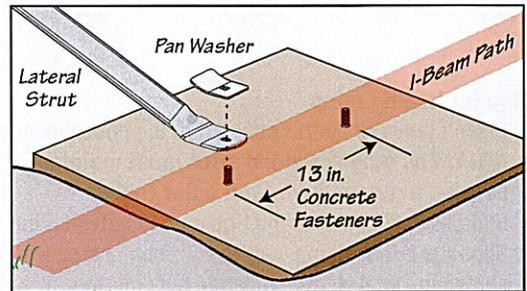

Fig. 3-2
- Slide the pan washer over the concrete anchor and on top of the lateral strut as shown in Fig. 3-2.
- Attach two flange nuts over the lower tension bracket and onto the two concrete anchors as shown right in Fig. 3-2